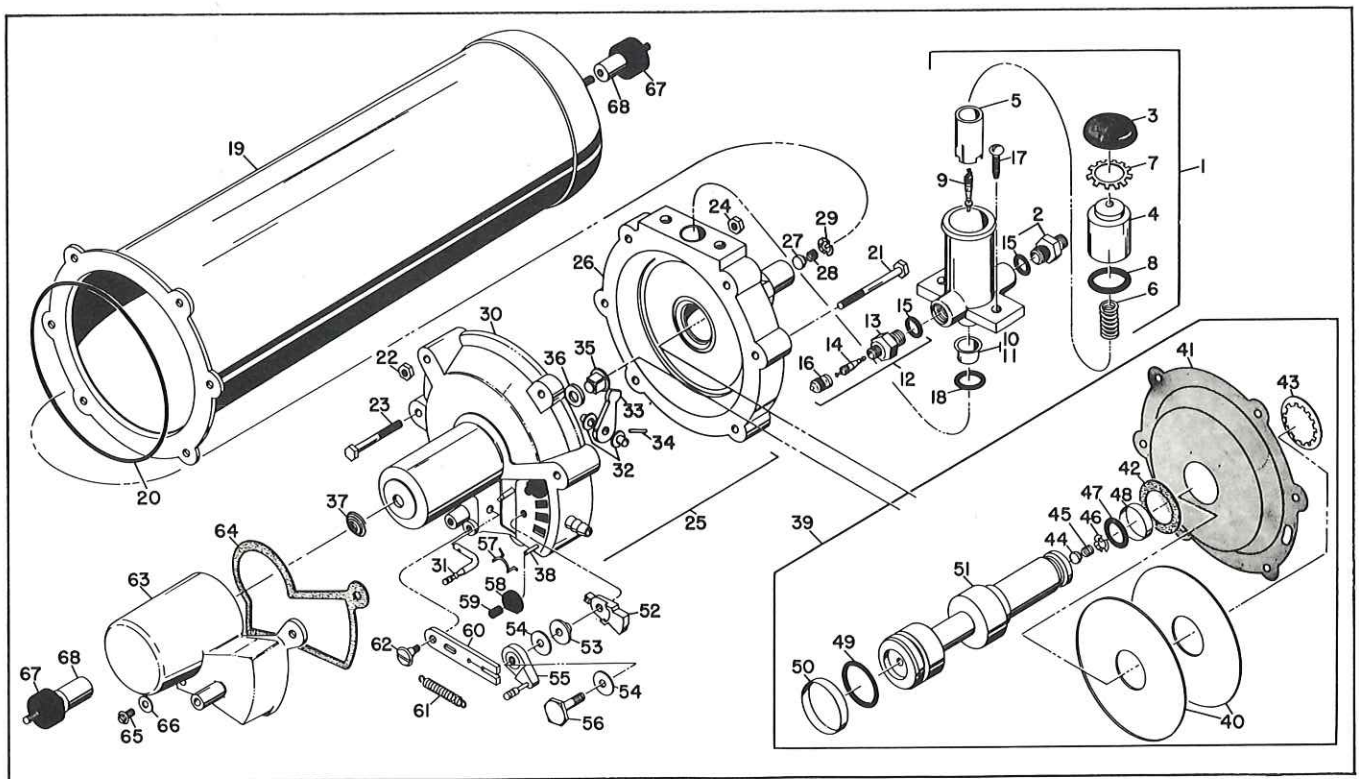

Fig. 14—Compressor, Regulator and Reservoir—Exploded view
Compressor, Reservoir and Regulator Disassembly into Major components (fig. 14)
Compressor, Reservoir and Regulator Disassembly, Inspection and Assembly of Major Components (fig. 14)
4. Install new corprene washer, old plate, new diaphragm with outer lip toward second stage side, (fig. 14) and second plate. Plates should